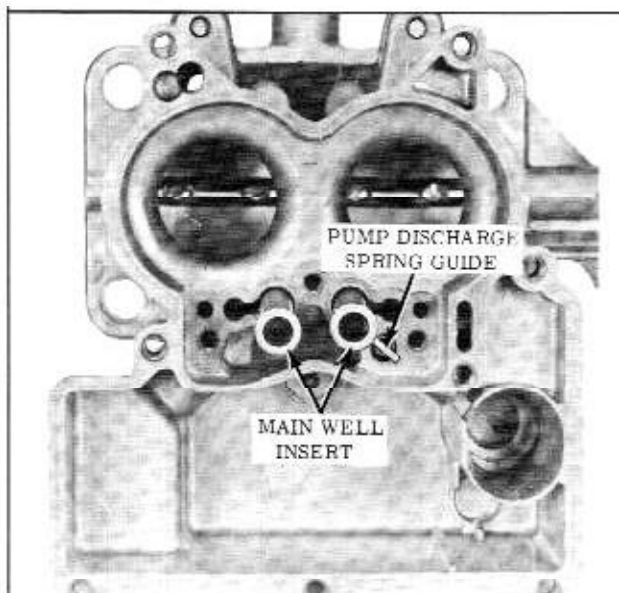

Fig. 8-77 Pump Discharge Spring Guide
- Using a pair of needle nosed pliers, remove the pump discharge spring guide, then remove the spring and steel ball. (Fig. 8-77)
1. Install steel pump discharge ball, spring and guide into the pump discharge passage, in the venturi cluster mounting surface. (Fig. 8-77)
2. Install the 2 main well tube inserts into the main wells. Make sure the lip on the main well inserts are seated properly in the casting. (Fig. 8-77)